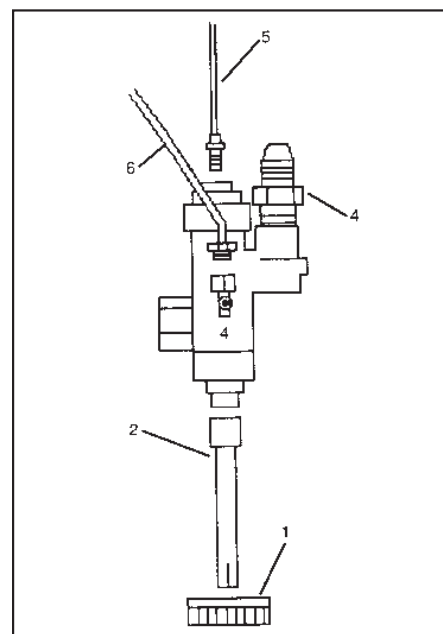

Figure 2
- C. Attach the 3/8" straight Flared Fitting (Part #4) to the Gas Control Valve using pipe compound. (*See Figure 2*)
- D. Attach Pilot Gas Supply Line (Part #6) and the Thermocouple Lead (Part #5) to the Gas Control Valve. Attach valve extension rod (Part #2) to knob and control valve. (*See Figure 2*)